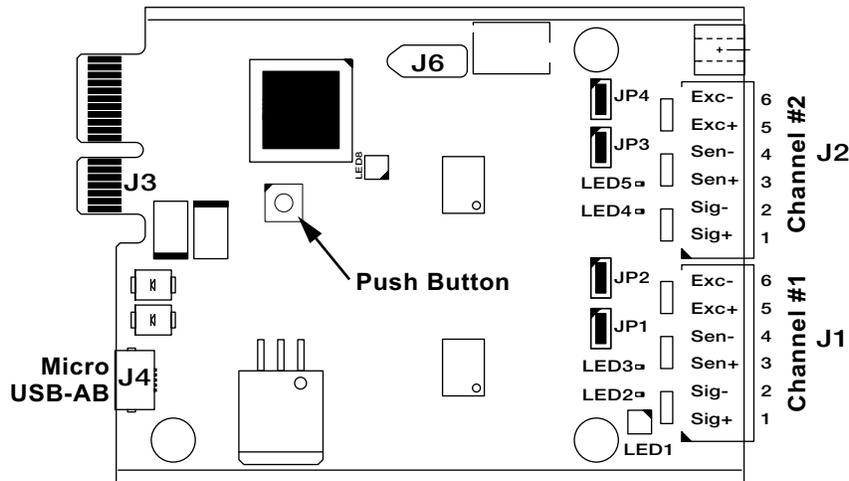

Figure 1. Second generation Single and Dual A/D Scale Cards
4. Attach the USB-A end of the cable into PC. (See Figure 1)